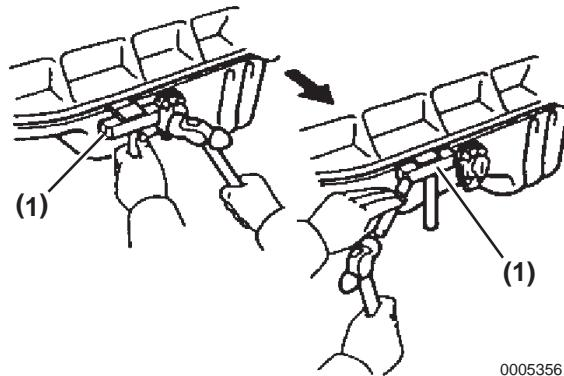

Figure 8-4
4. Remove the 27 oil pan nuts and bolts and insert an appropriate tool (Figure 8-4, (1)) between the cylinder block and oil pan to cut off the seal and then remove the oil pan. **NOTICE: During removal avoid damaging the oil pan flange.**